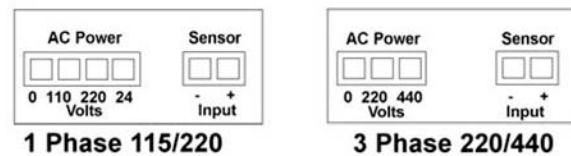

Figure 6-3: LED display connection
2. Remove pulley cover and reconnect wire on LED display accordingly (see Figure 6-3).